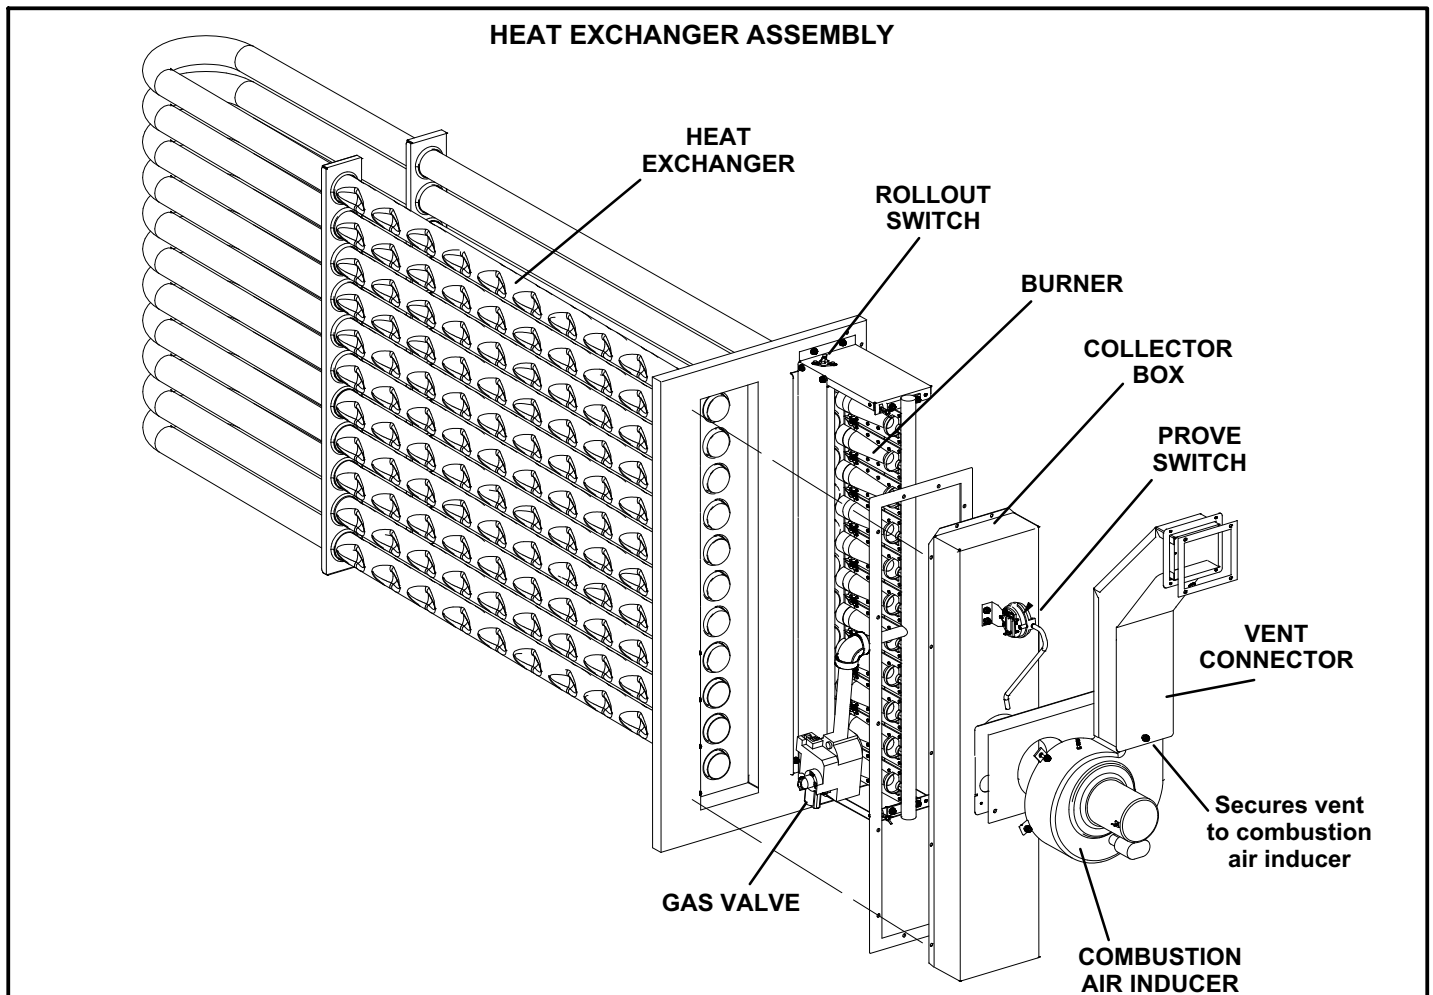

FIGURE 61
- 3- Remove and retain screws securing combustion air inducer to flue box. Remove and retain the screw securing the combustion air inducer to the vent connector. See figure 61.